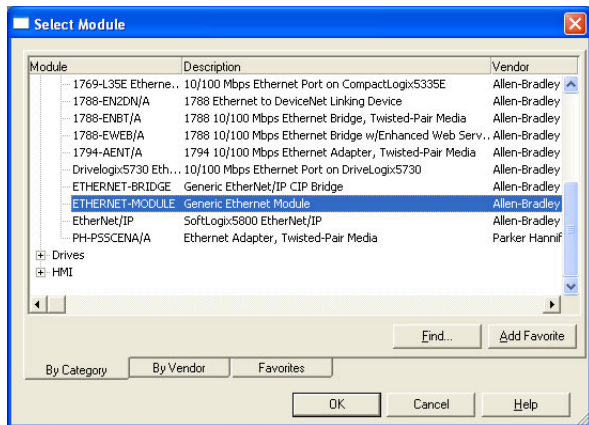

Figure 86: Adding a New Generic Ethernet Module
- 3) Choose "Generic Ethernet Module" in the Select Module dialog box and click "OK". Refer to Figure 86.